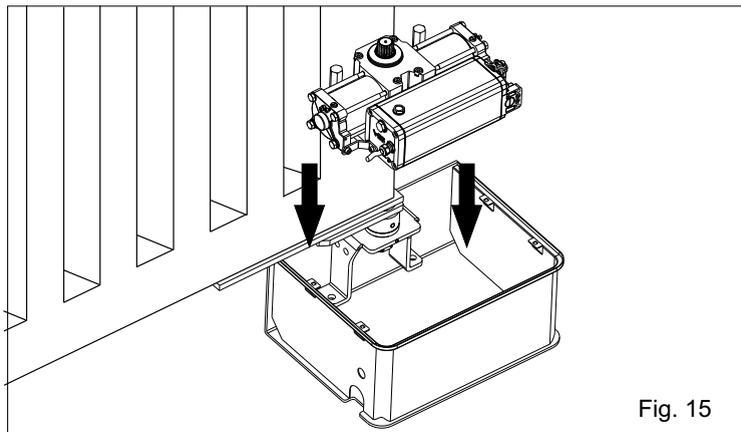
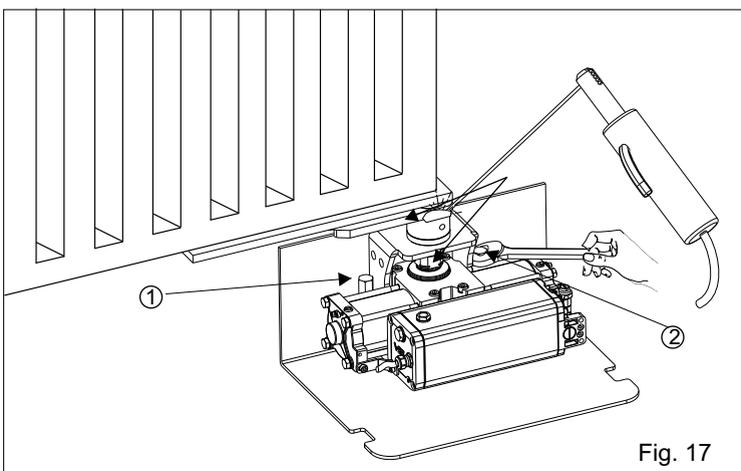

Fig. 15
Fig. 17
4.1. Insert manually the operator into the carrying box (Fig. 15) also insert the splined shaft of the operator into the splined bush of the box and fix the operator with the special screws as in Fig. 17.